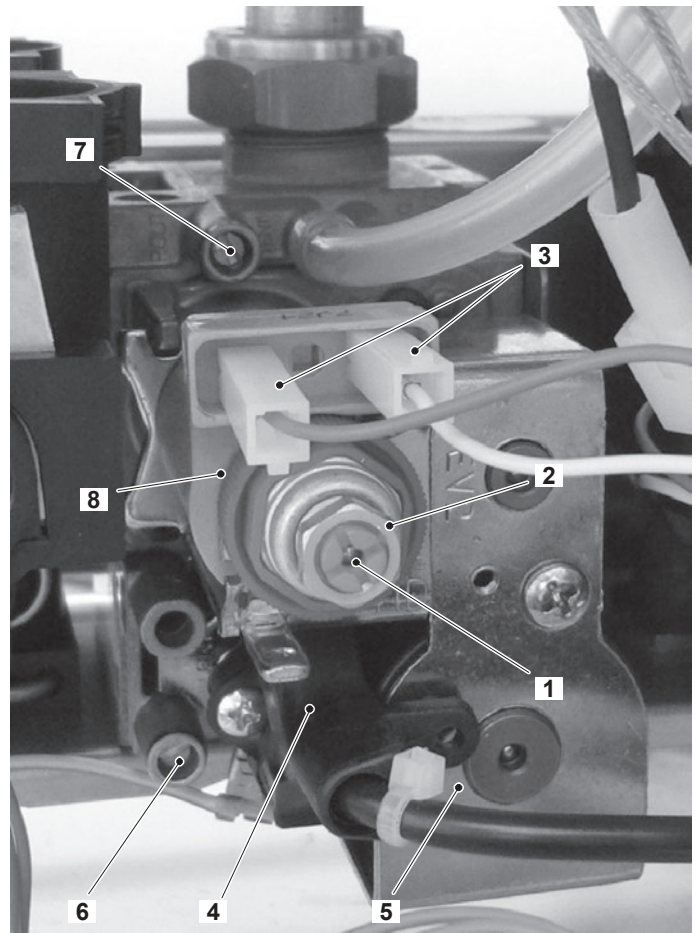

Figure 11.2
11.2 Nomenclature of the parts - (Figure 11.2)
- 2 Open the gas valve inlet pressure test point (6 in Figure 11.2) at the valve input, connect a suitable pressure gauge and check the gas pressure of the supply network.
- 4 Open the gas valve outlet pressure test point (7 in Figure 11.2) and connect the gauge;
- 8 Rotate the maximum gas pressure adjustment (2 in Figure 11.2) until you obtain the required pressure (by rotating clockwise the pressure increases).
- 9 Turn the boiler off and disconnect one of the two connectors (3 in Figure 11.2).
- 10 Start the boiler and rotate the minimum gas pressure adjustment (1 in Figure 11.2) until you obtain the required pressure (by rotating clockwise the pressure increases).